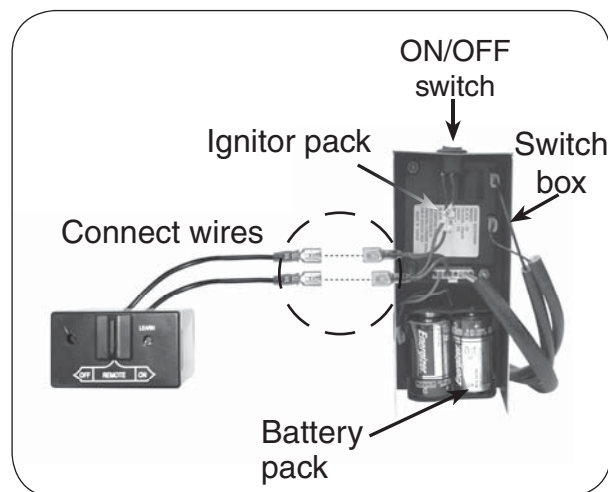

Fig. 9-1 Switch box detail
Two 1.5-volt (D-cell) alkaline batteries are supplied with the burner system. To install or replace batteries, remove any old batteries (if applicable) and install new batteries according to the diagram illustrated on the battery holder mounted inside the switch box (Fig. 9-1).
2. Connect the remote receiver wires to the switch box (see Fig 9-1).
Place the switch box outside of the firebox and a minimum of 6" from the burner/flame. If the switch box is in the firebox, the switch box must only be oriented as shown in Fig. 9-2. The switch box must not be placed in the rear of the fireplace, or in any other manner than shown in Fig. 9-1. Set the box on its side and place the bottom of the box toward the right firebox wall (box must be a minimum of 6" from the burner/flame). Be sure that the pilot and valve wire bundles remain clear of the burner, valve, and heat shield at all times.